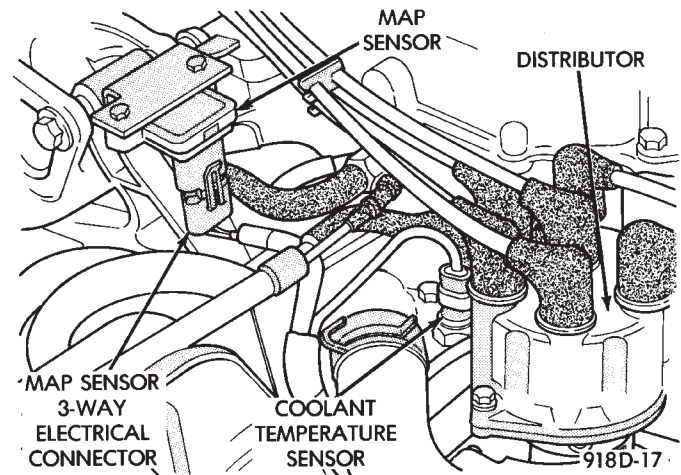

Fig. 17 Manifold Absolute Pressure Sensor
(1) Remove vacuum hose and mounting screws from manifold absolute pressure (MAP) sensor (Fig. 17).
(2) Disconnect electrical connector from sensor. Remove sensor.
(3) Reverse the above procedure for installation.